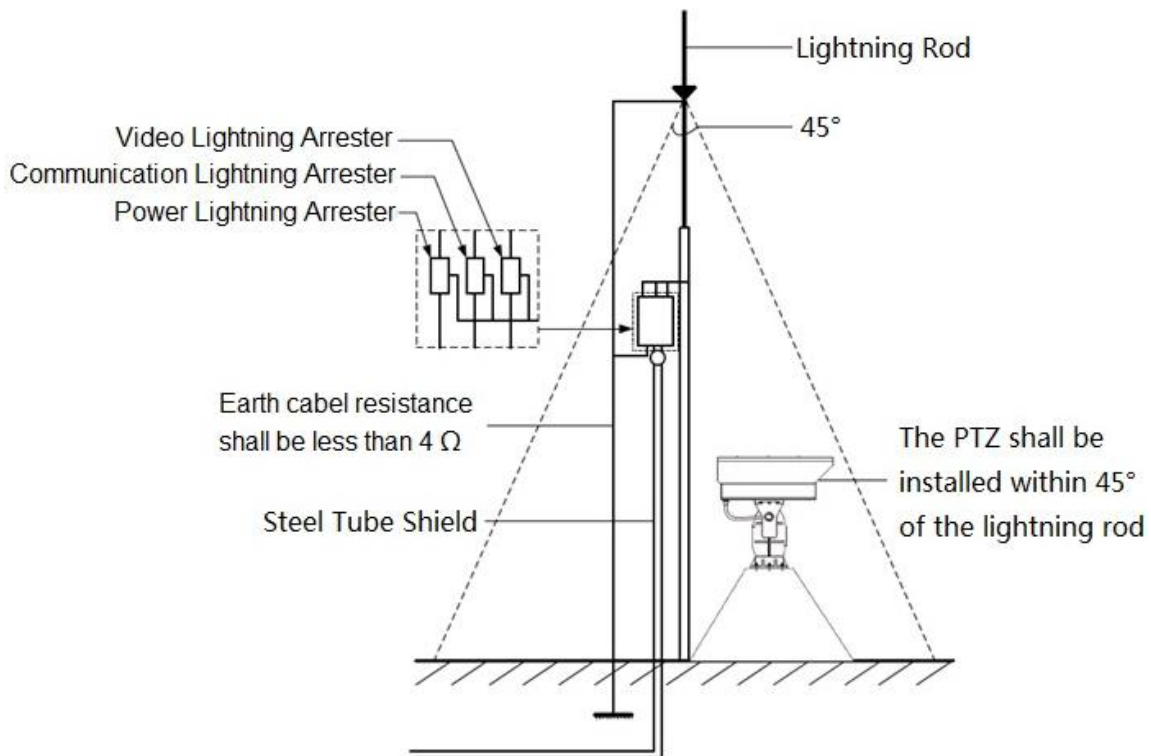

Figure 5-1
- System shall adopt equal-potential wiring. The earth device shall meet anti-jamming and at the same time conforms to your local electrical safety code. The earth device shall not short circuit to N (neutral) line of high voltage power grid or mixed with other wires. When connect the system to the earth alone, the earth resistance shall not be more than  $4\Omega$  and earth cable cross-sectional area shall below  $25\text{ mm}^2$ . See Figure 5-1.